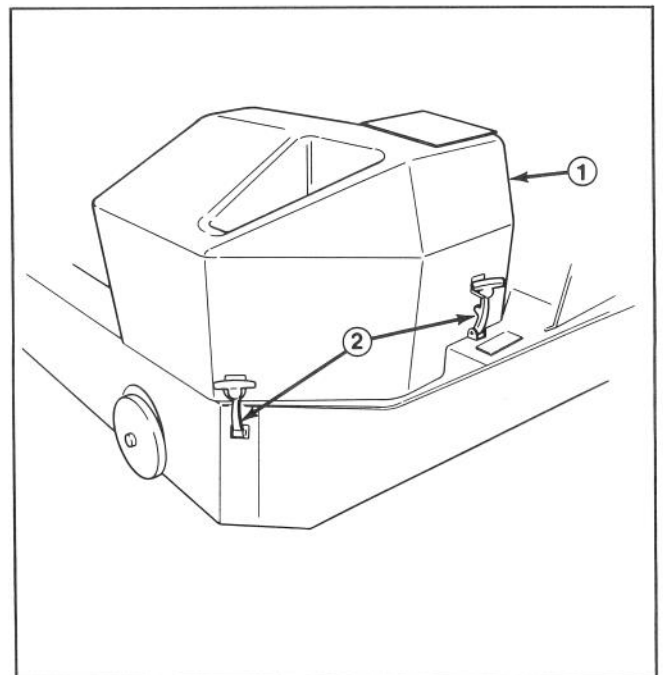

Figure 10
2. Unhook latches securing clutch cover to chassis, and remove cover (Fig. 10).